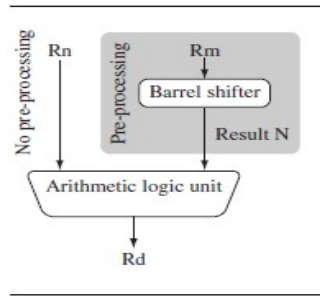

Figure 3.1 Barrel shifter and ALU.
- To illustrate the barrel shifter we will take the **example in Figure 3.1 and add a shift operation to the move instruction example.**
- Register *Rn* enters the ALU without any preprocessing of registers. Figure 3.1 shows the data flow between the ALU and the barrel shifter.